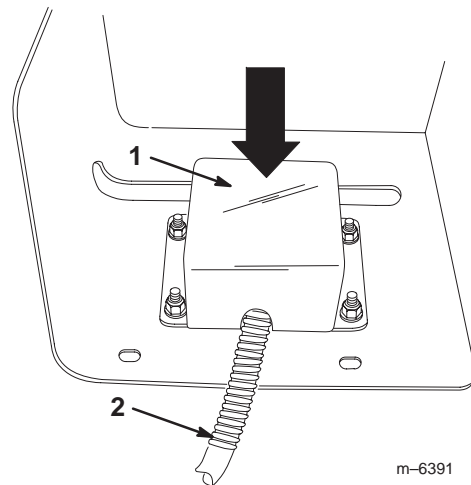

Figure 26
- 15.** Install the switch wire cover and around the wires (Fig. 26) and secure it with 4 flange-head bolts (1/4 x 3/4 inch) and 4 flange nuts (1/4 inch).